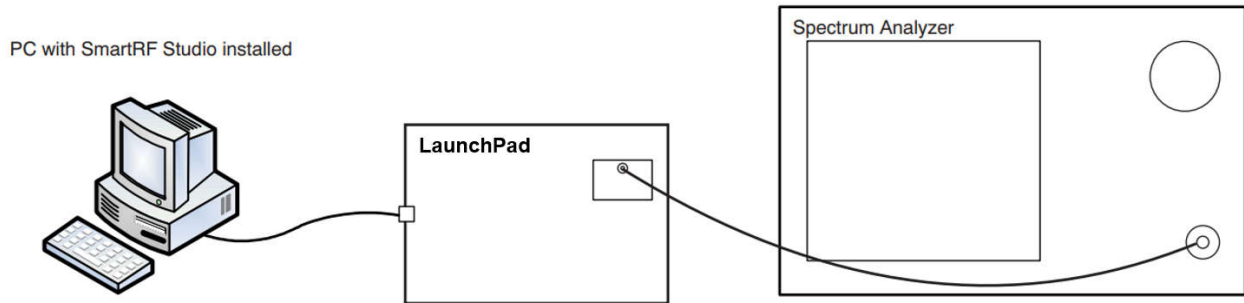
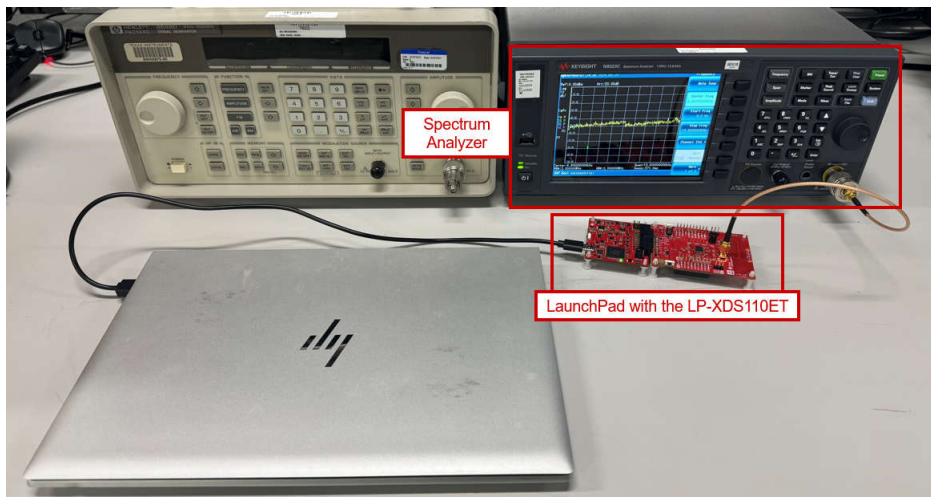
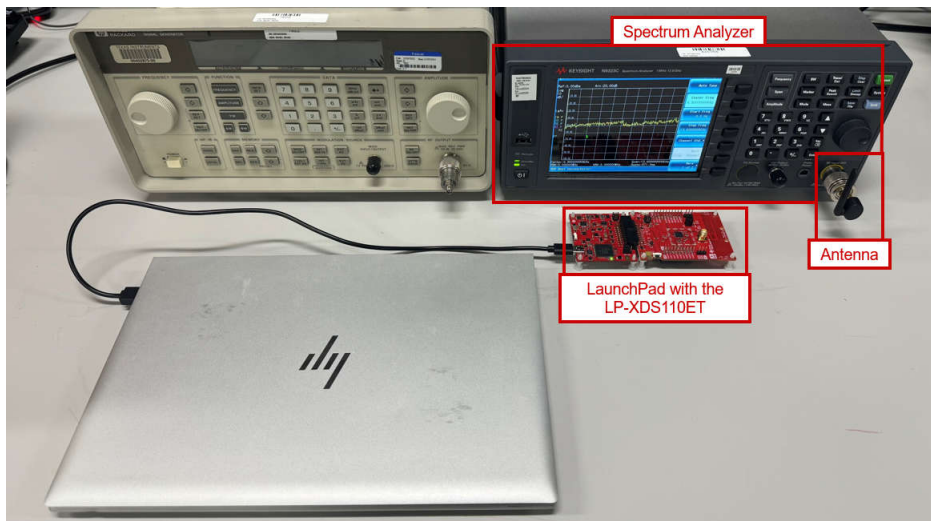

Figure 7-13. Transmission Center Frequency Offset Test Setup Diagram
Figure 7-14. Transmission Center Frequency Offset Test Bench Setup With A SMA Connector
Figure 7-15. Transmission Center Frequency Offset Test Bench Setup With An Antenna
Test Condition: Figure 7-13 shows the setup for transmission center frequency offset testing.
- Step 1: Connect the instruments as shown on Figure 7-13 and Figure 7-14, or with Figure 7-15 if using an antenna.